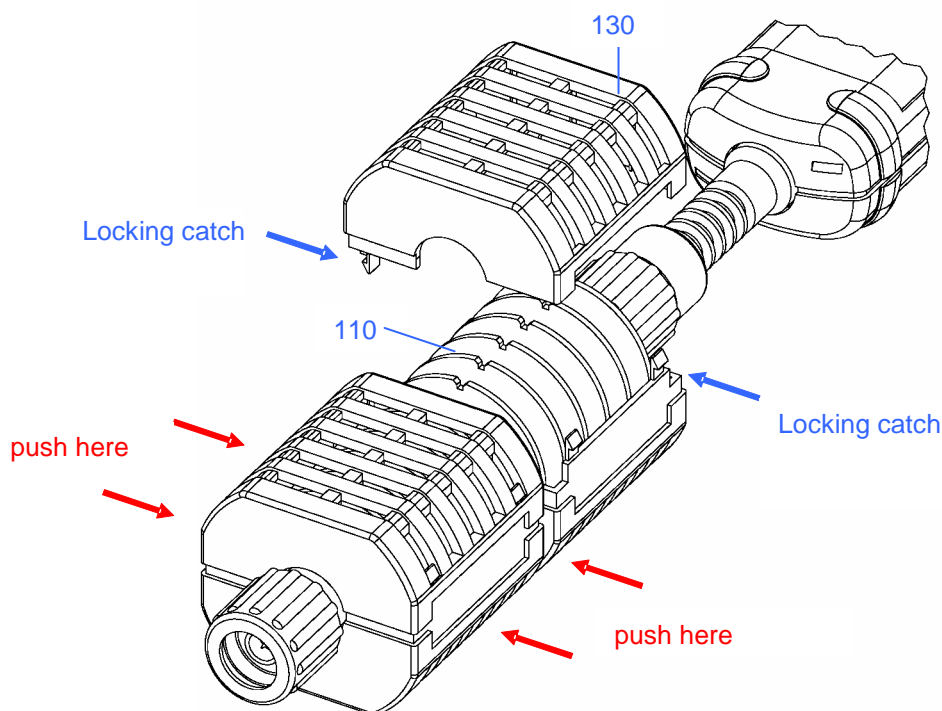

Fig. 3-5 Removing the protection against accidental contact for R&S NRP-Z23 and R&S NRP-Z24
- Press the shell halves (130) together at the indicated locations (Fig. 3-5) to unlock them.
- Remove attenuator (110).